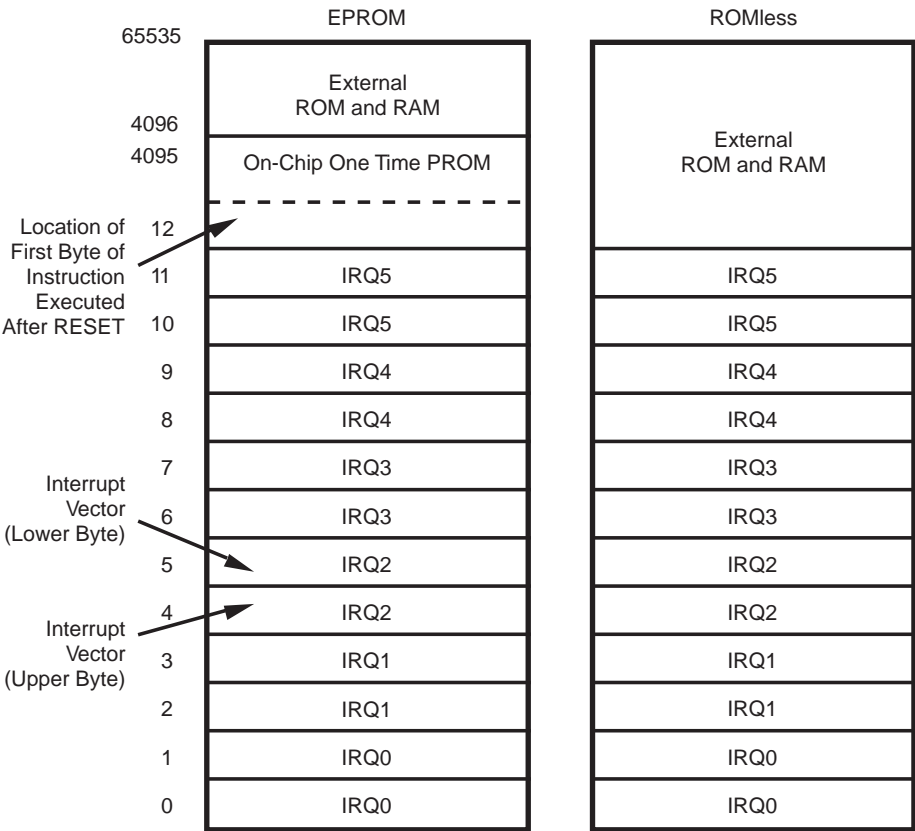

Figure 22. Program Memory Map (ROMless Z86E40 Only)
**Program Memory.** The MCU can address up to 4 KB of Internal Program Memory (Figure 22). The first 12 bytes of program memory are reserved for the interrupt vectors. These locations contain six 16-bit vectors that correspond to the six available interrupts. For EPROM mode, byte 12 (000CH) to address 4095 (0FFFH) consists of program-mable EPROM. After reset, the program counter points at the address 000CH, which is the starting address of the user program.